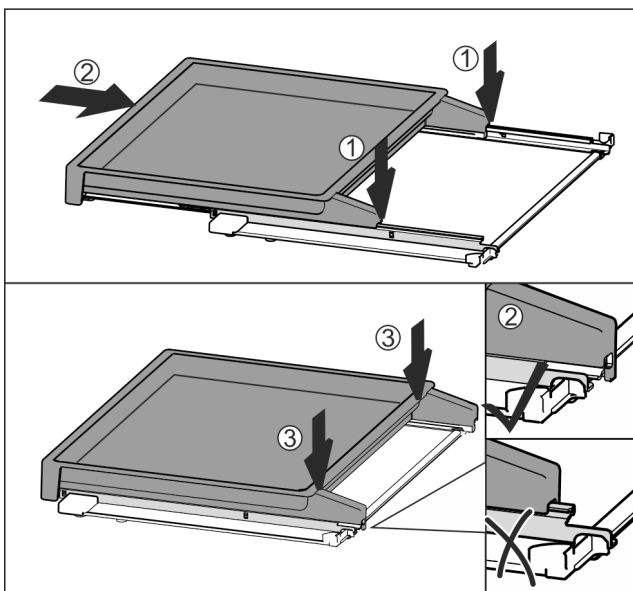

Fig. 97
- ▶ Place centrally on the rails Fig. 97 (1).
- ▶ Slide the pull-out board all the way in Fig. 97 (2).
- ▶ Press down at the back until it clicks into place Fig. 97 (3).